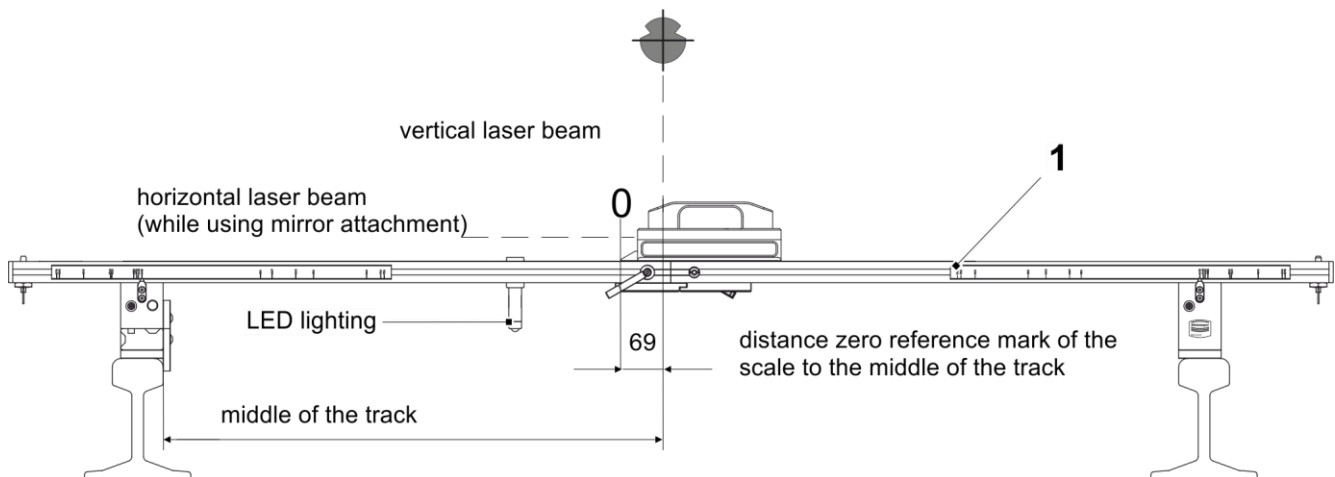

Fig. 8
- Place the measuring bar (1, Fig. 8) perpendicularly above the track with the insulated stop onto a rail.